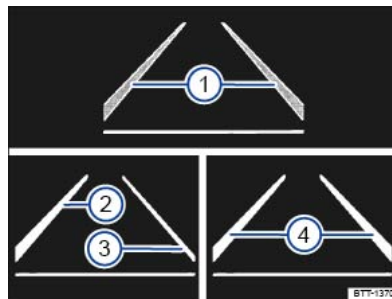

Fig. 147 On the instrument cluster display: lane keeping system displays.
Display areas in the instrument cluster display → Fig. 147:
- The system has detected a lane marking on both the right and left sides of the vehicle ⇒ *Fig. 147* .
- The system has detected a lane marking on both the right and left sides of the vehicle $\Rightarrow$ Fig. 147 .